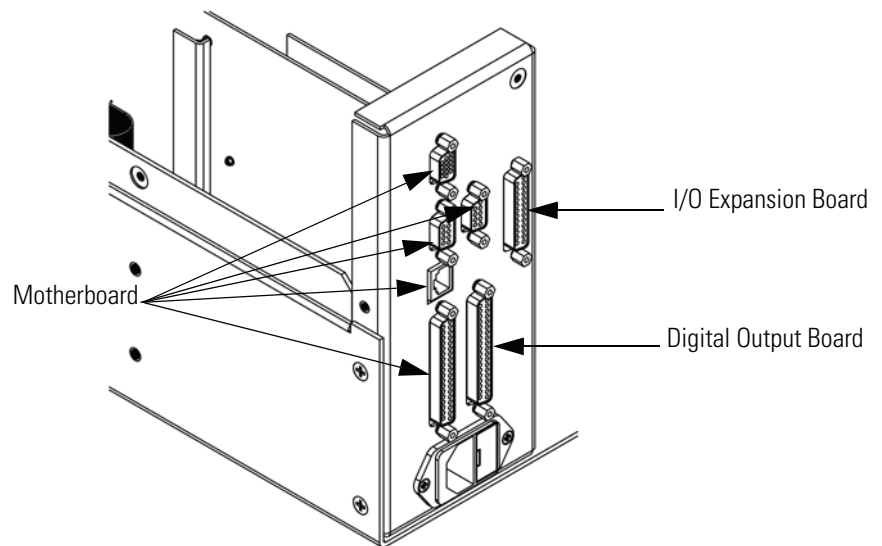

Figure 6-8. Rear Panel Board Connectors
3. Remove the two standoffs holding the I/O expansion board connector to the rear panel (Figure 6-8).
4. Using the nut driver, remove the two standoffs securing the board to the rear panel (Figure 6-8).